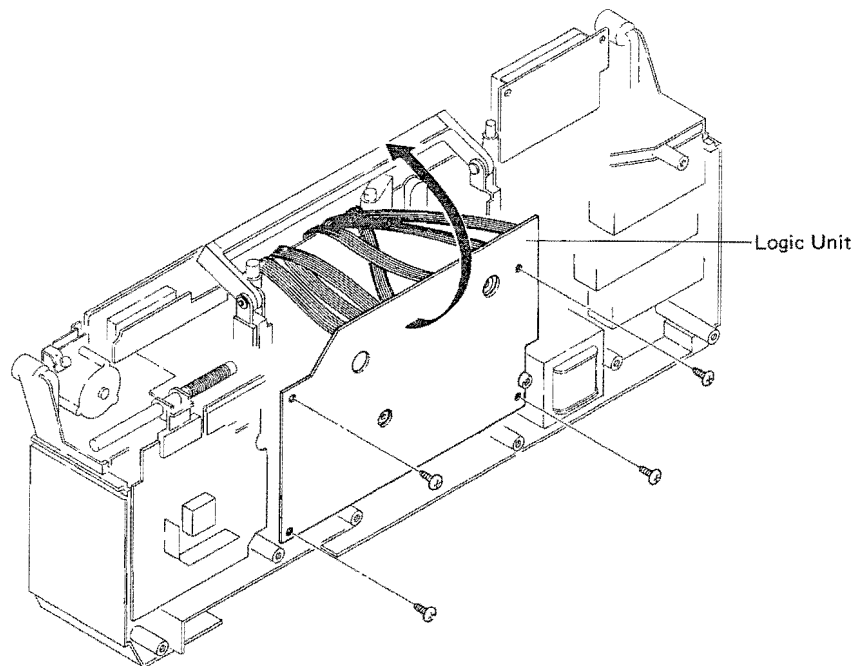

Fig. 38
4. Remove the four screws holding the logic unit (Fig. 38).
5. Disconnect the connectors, and relocate the unit in the manner indicated by the arrow (Fig. 38).